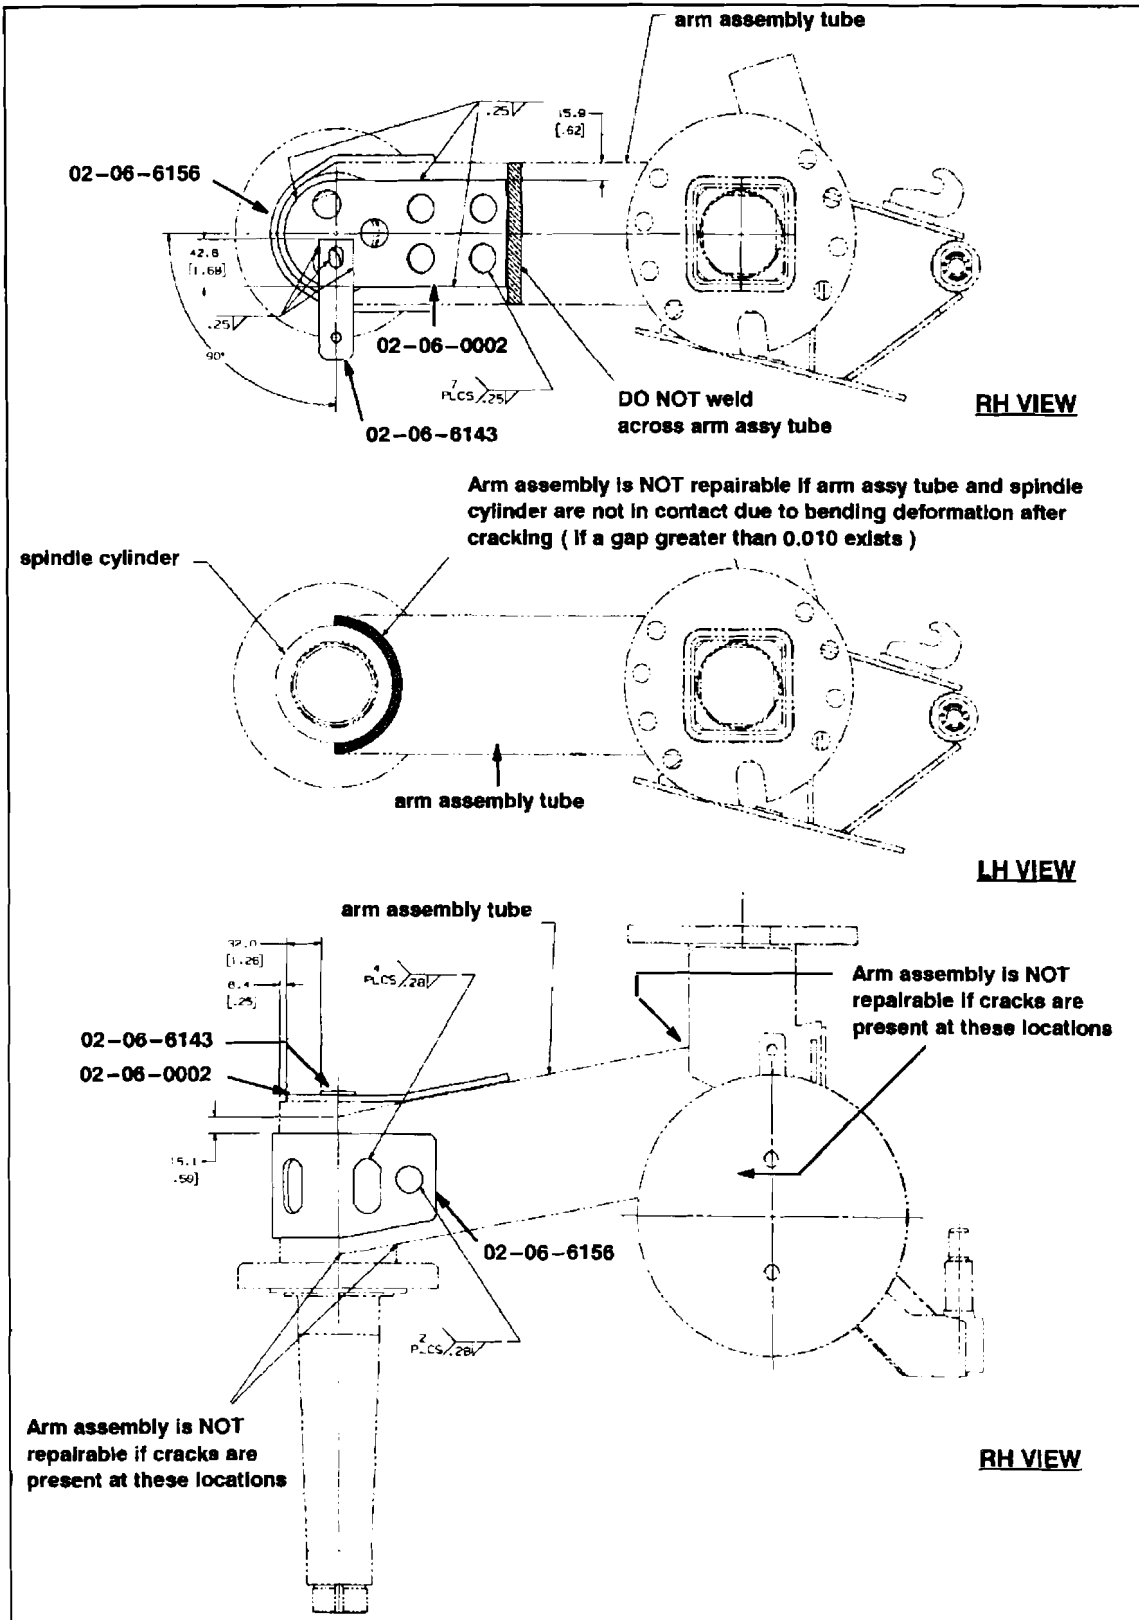

Figure 4.
- B. Cracks are present at lower wheel spindle end of the arm assembly (Figure 4).*
- C. Arm assembly tube and spindle cylinder are not in contact due to bending deformation after cracks are initiated (if cracks are more than 0.010 inch) (Figure 4).*
13. Position the plate (part number 02-06-0002), ensuring that it sits flush and in full contact with the arm tube and spindle (Figure 4).
15. Position the plate (part number 02-06-0002) and strap (part number 02-06-6156) in place, ensuring proper fit and installation (Figure 4). Using clamps, secure the plate and strap in position.
17. Weld around inside edge of hole using SMAW process and E7018-1 electrodes (Figure 4).
20. Weld the strap and reweld the brake hose bracket (removed in Step 12.), according to welding symbols in Figure 4. DO NOT weld across arm assembly.